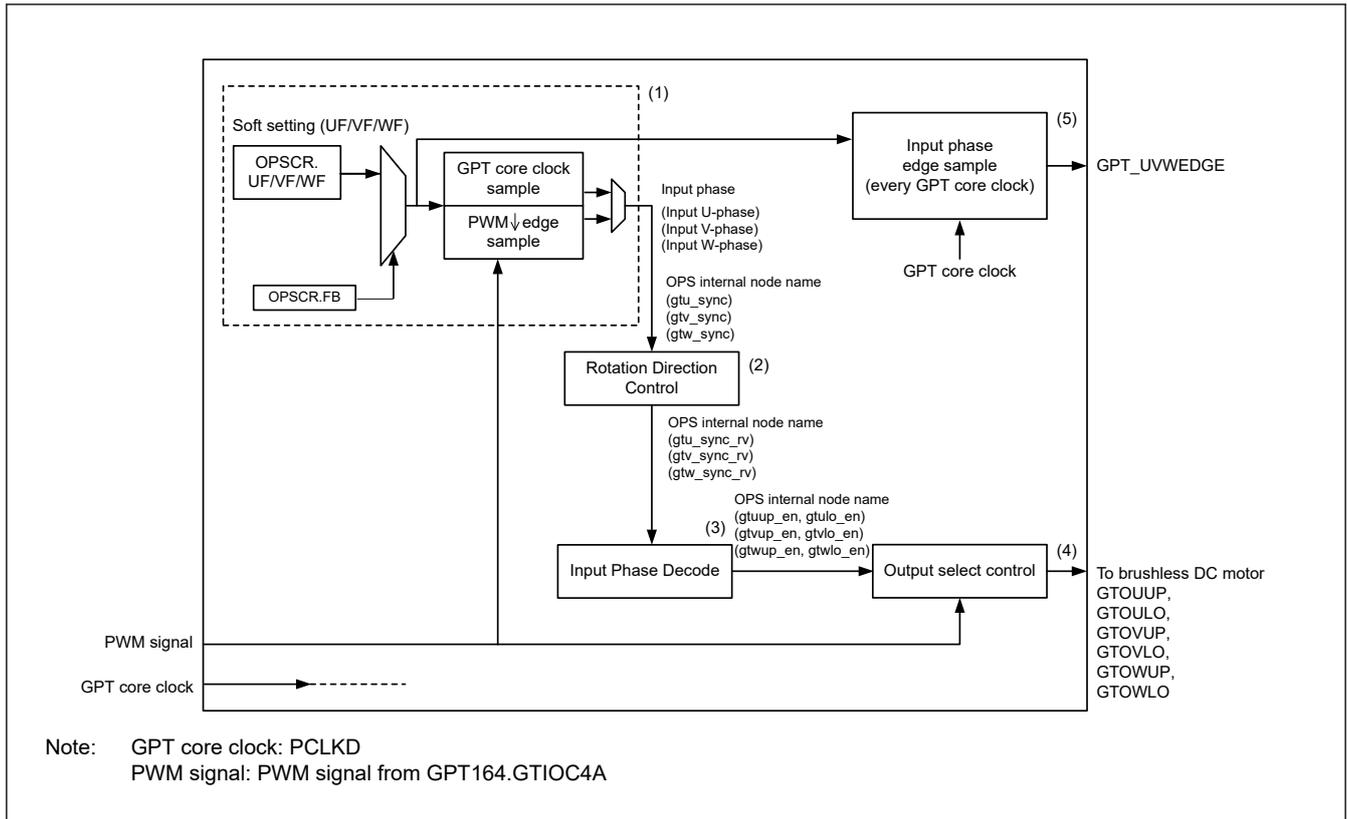

Figure 20.55 Conceptual diagram of GPT_OPS control flow
Figure 20.55 shows the conceptual diagram of GPT_OPS control flow.
In the GPT_ OPS control flow conceptual diagram shown in Figure 20.55, (1) is a selection of input phase from the software settings by the OPSCR.FB bit.
In the GPT_OPS control flow conceptual diagram shown in Figure 20.55, (3) enables the 6-phase signals by decoding the input phase.
In the GPT_OPS control flow conceptual diagram shown in Figure 20.55, (2) controls the direction of rotation of a 3-phase motor using the OPSCR.RV bit.
In the GPT_OPS control flow conceptual diagram in Figure 20.55, (4) represents the selection of the output waveform by setting the OPSCR register bit.
In the GPT_OPS control flow conceptual diagram shown in Figure 20.55, (5) outputs the UVW input signal edge to the ELC.